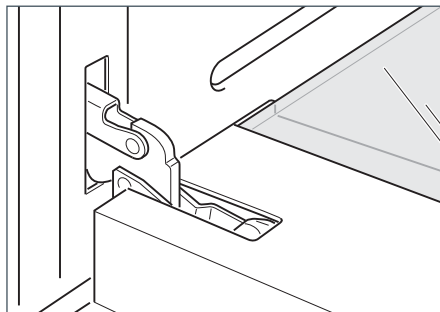

Fig.48a
- 1 Open the door to its full extent (Fig. 48a).